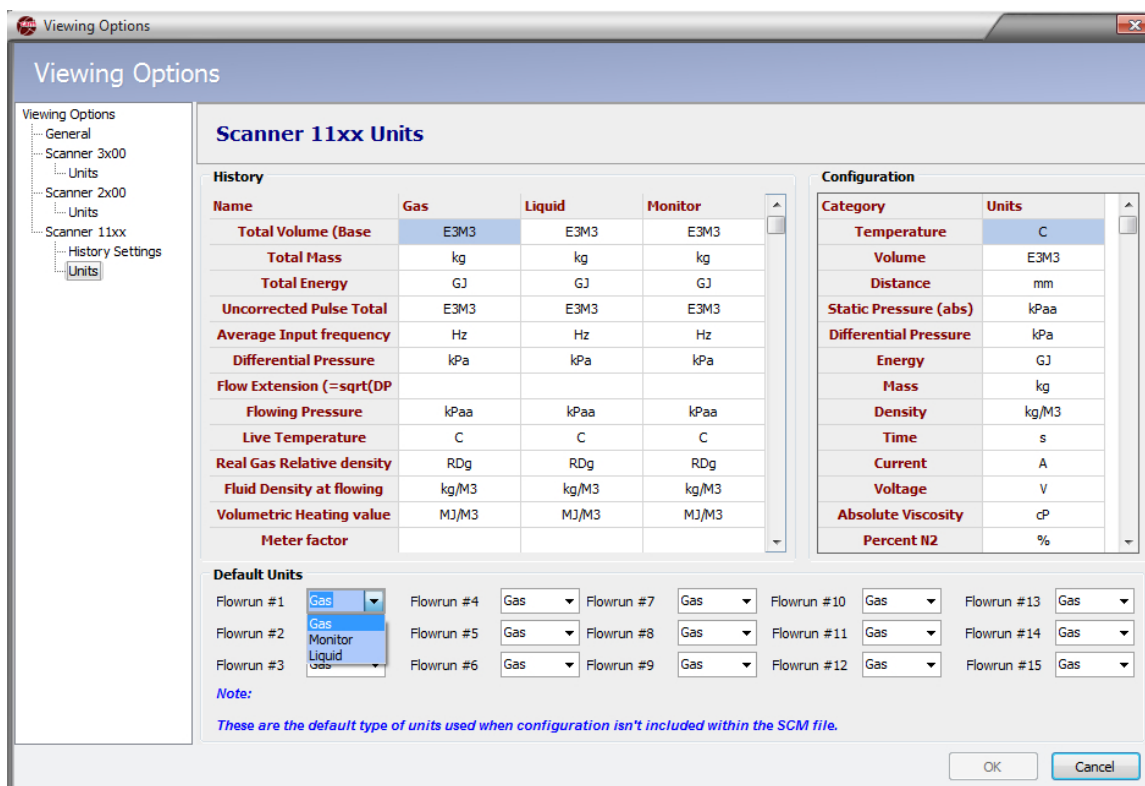

Figure A.5—Scanner 11xx unit selections
- Click in the appropriate field in the “History” area or the “Configuration” area (Figure A.5, page A-5) and select the unit in which the archive file data will be viewed from the dropdown list.